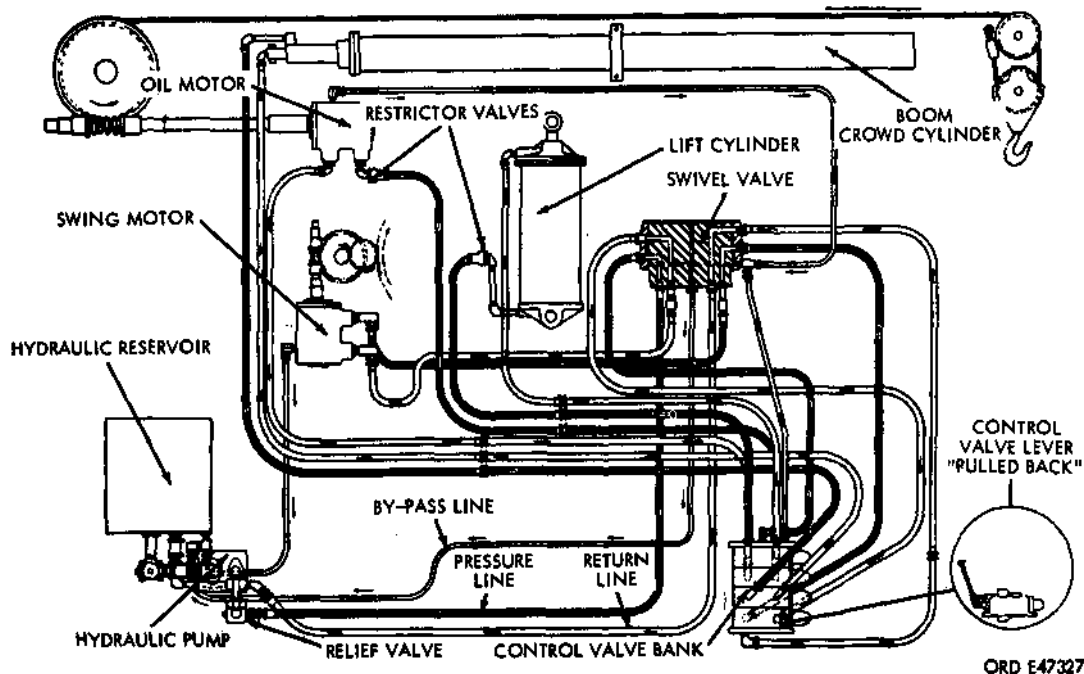

Figure 538. Crane hydraulic system M246
n. Hydraulic System. The wrecker crane hydraulic system (fig. 538) is completely sealed except for the breather-type reservoir filler cap. A bayonet-type oil level gage attached to a square-head pipe plug is installed in the top of the reservoir.
- (6) Disconnect floodlight cable at bayonet-type connector clipped to top of frame cross member under crane base plate.
- (7) Disconnect swivel-valve-to-relief-valve line (fig. 538) from relief valve outlet port.
- (9) Disconnect swivel-valve-to-reservoir line (fig. 538) from tee on bottom of reservoir.